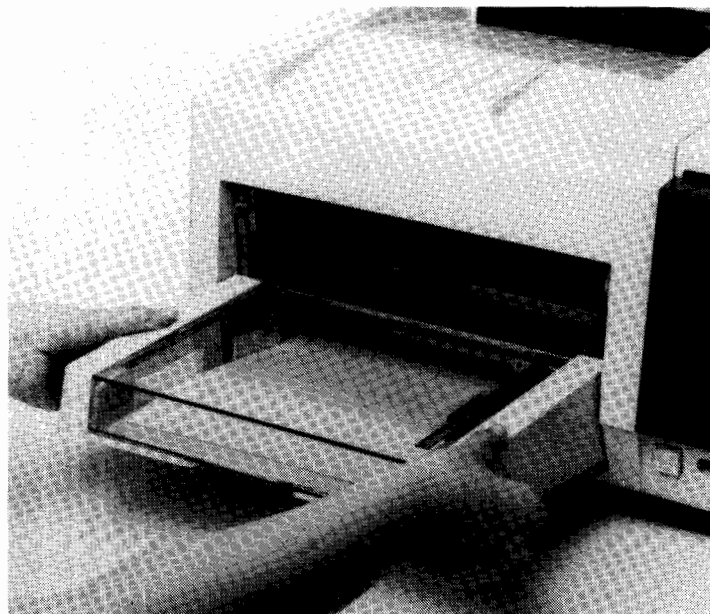

Figure 4-18. Removing Paper Tray
- c. Remove the paper tray as shown in figure 4-18 and set it aside.